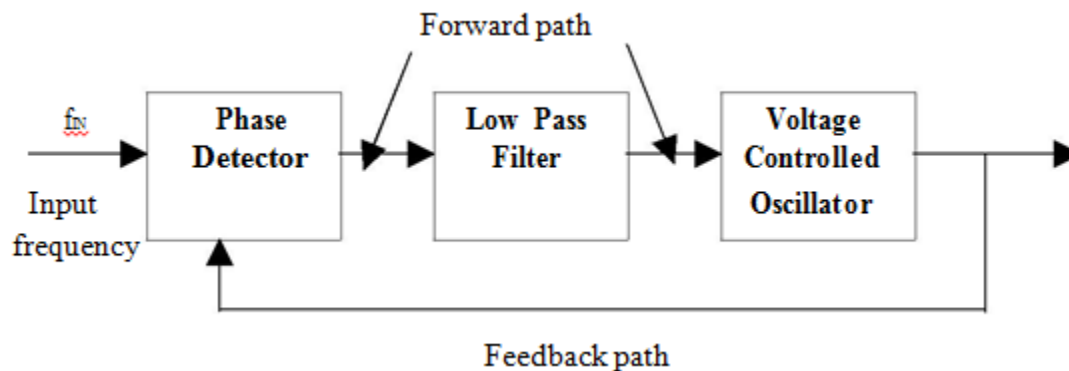

Fig 12 IC 565 Block diagram
- The block diagram of PLL IC 765 shown in figure 12 consists of i) Phase detector ii) LPF iii) VCO. The phase detector or comparator compares the input frequency f_{IN} with feedback frequency f_{OUT} .